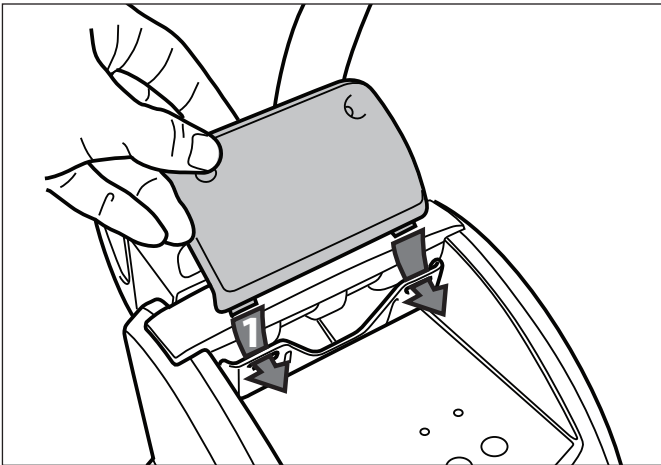

Figure 10. Position the Locking Plate Clips
2. Slide the locking plate clips into the control hook and line up the screw holes. Refer to Figure 10.